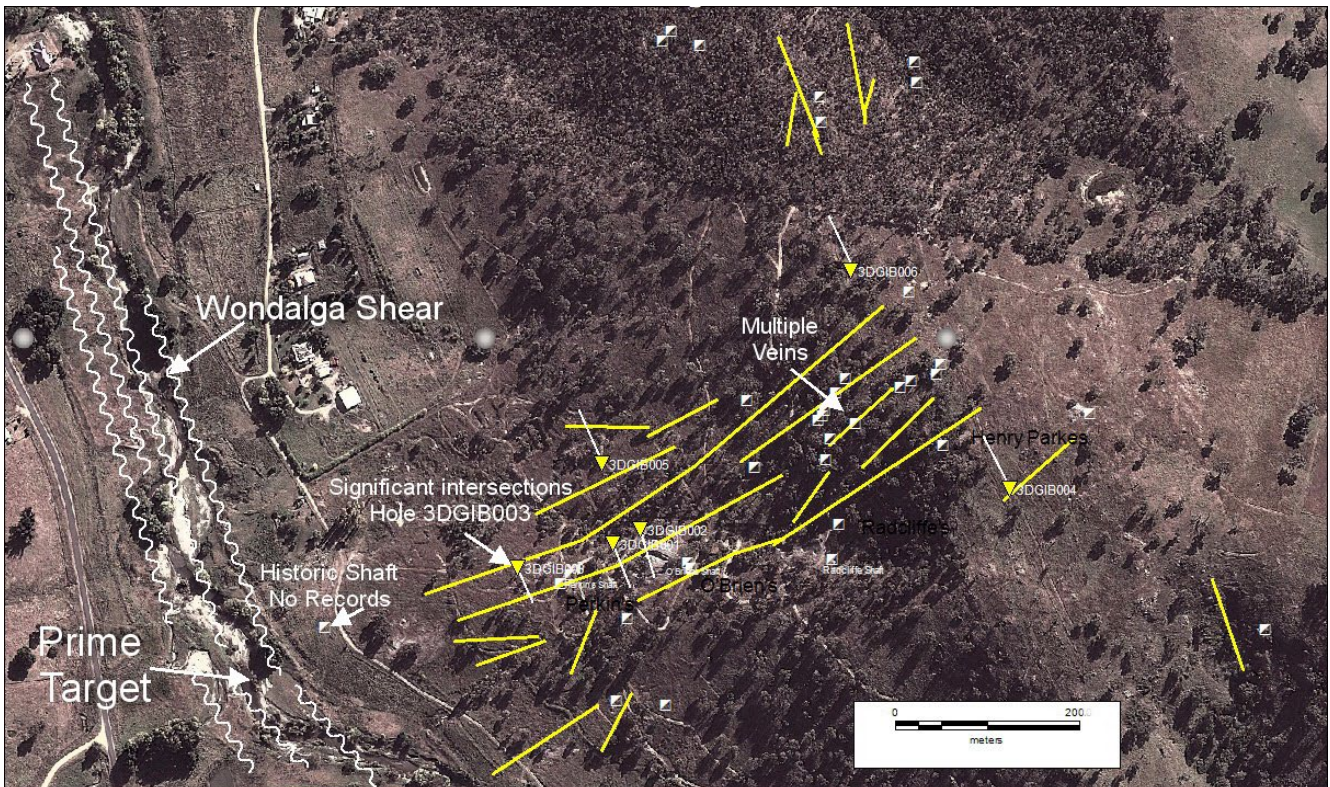

Figure 3: Some of the key features of the Gibraltar area and Targets
- a series of shafts testing multiple veins but the major production coming from primarily the O'Brien's Shaft and a single vein(See Figure 3). These can potentially offer open cut potential (largely unexplored)